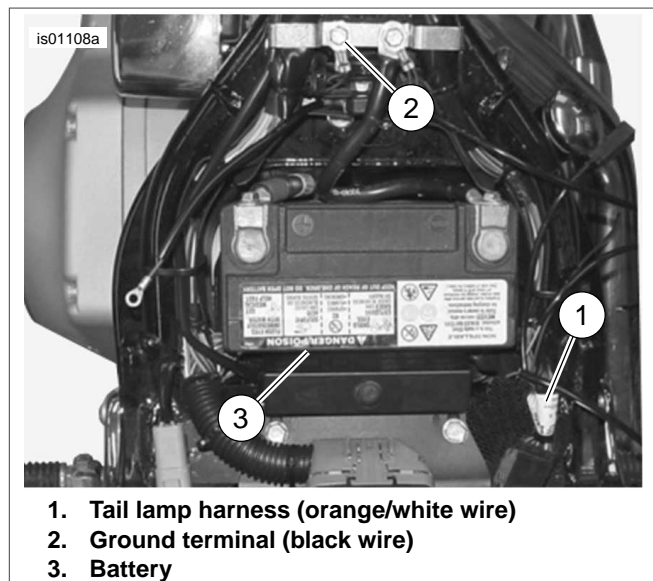

Figure 2. Power and Ground Connections (Softail Models)
4. See Figure 2. Install the ring terminal onto the ground screw threads. Fasten the ground screw to the frame (2) and secure per the torque specification in the service manual.
- See Figure 2. Carefully slice open an area of the tail lamp harness (1) wrap at an accessible point under the seat, and cut the orange/white wire.